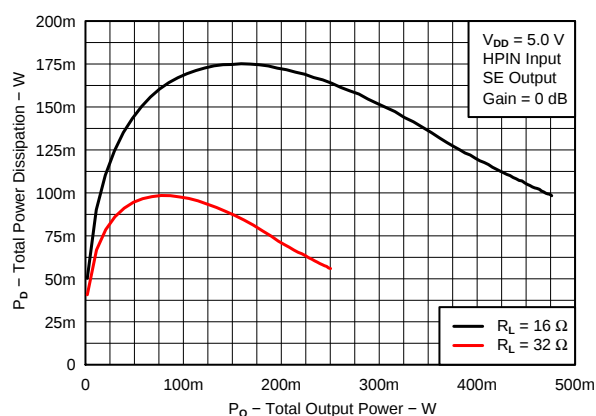

Figure 13.
| $P_D$ Total power dissipation (SE)                  | vs Total output power | Figure 13                    |